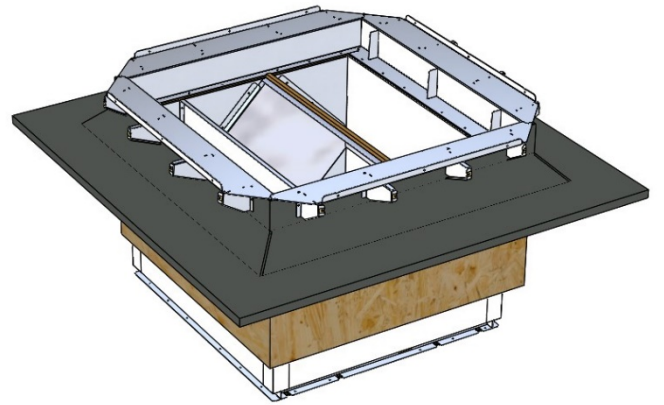

Figure 14 – Heat exchanger final position.
2. Ensure upper perimeter of the heat exchanger sits evenly on the plywood upstand – *see figure 14.*